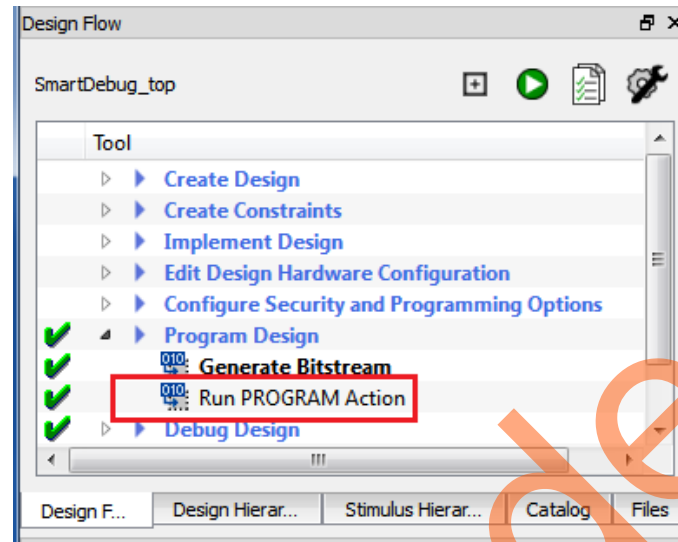

Figure 8 • Programming the Device
8. In the **Design Flow** window, select **Run PROGRAM Action**, as shown in Figure 8. This programs the design into the device.